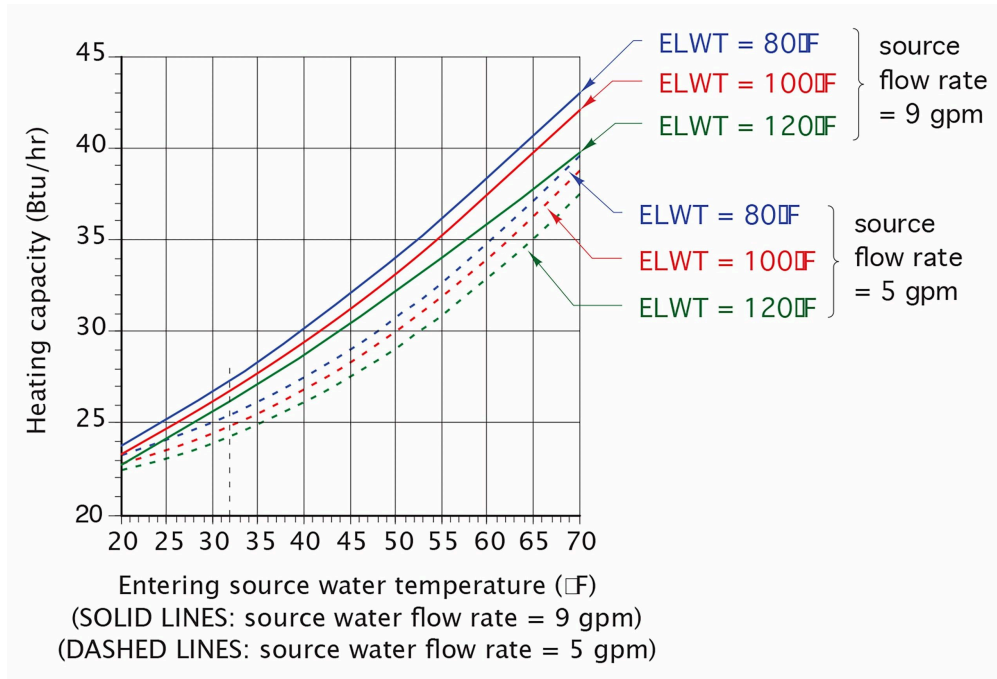

Figure 3 Heating capacity graph
- Figure 3 Air-to-air heat pump in heating mode © [Caleffi Hydronic Solutions \(https://www.caleffi.com/usa/en-us\)](https://www.caleffi.com/usa/en-us). Used with permission.
The graph shown below as Figure 3 illustrates these statements of summary.